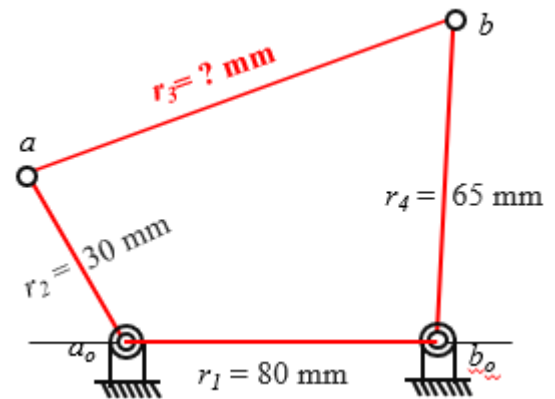

Fig. 3. 4-bar mechanism
3. For the 4-bar mechanism shown in Fig. 3, crank 2 is to rotate continuously and link 4 is to oscillate. What are the maximum and minimum values in millimeters which can be used for the coupler length (l_3). (20%)
4. For the 4-bar mechanism, shown in Fig. 3, with $r_1=70\text{cm}$, $r_2=30\text{cm}$, $r_3=95\text{cm}$, and $r_4=65\text{cm}$. When $\theta_2 = 120^\circ$ and $\omega_2=1200\text{rpm}$, please find (a) the angular displacements of θ_3 and θ_4 , (b) the angular velocities of ω_3 and ω_4 . (20%)